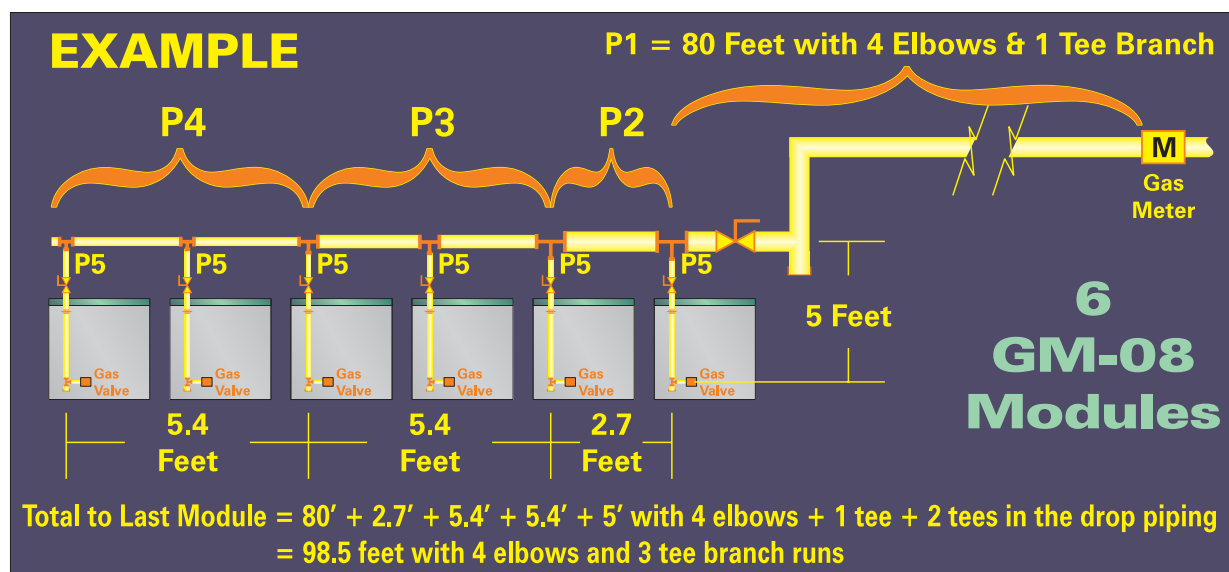

Figure 7.2: Gas Pipe Sizing Example
1. Figure 7.2 is a schematic piping diagram of (6) Natural Gas GM-08 modules on 32" centers as shown. The example will be for natural gas at 0.60 specific gravity.